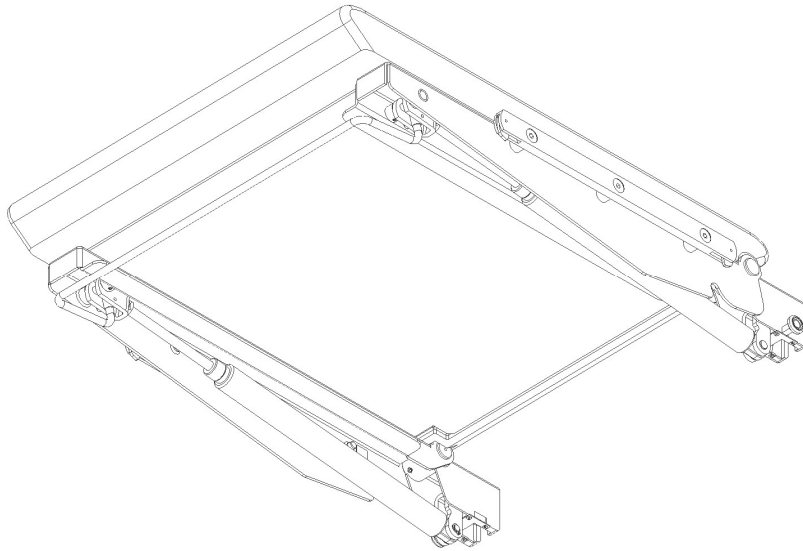

Fig. 15 Footrest plate
The footrest plate (fig. 15) is installed on the wedges found at the end of the seat. To install the footrest, put the footrest wedge socket on the wedge spigot in the seat. In order to do that the button does not have to be pushed (fig. 15, pos. 1) – the footrest will place itself in the correct position and lock itself on the spigot. It is advised to ask someone for help when disassembling the footrest. To take off the footrest, simultaneously push the two buttons on its sides and, with the buttons still pushed in, lift it up until it is taken off the wedge spigot in the seat. To change the angular position of the footrest, push the lever (fig. 15, pos. 2) triggering the gas spring mechanism. Releasing the lever locks the footrest in the set position.